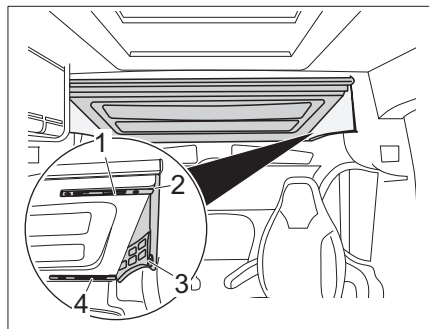

Fig. 28 Multiroof folded upwards
- Lift the Multiroof using one hand. With the other hand, open the two front locks (Fig. 28,1) on the left and right.
- Carefully fold the MultiRoof upwards until the locking pins are at the level of the upper notches (Fig. 28,2).
- Lift the Multiroof using one hand. With the other hand, pull the two locking pins (Fig. 28,1) out of the notches.
- Carefully fold down the Multiroof until the two locking pins are level with the lower notches (Fig. 28,3).
- Hold the Multiroof with both hands while the second person releases all locks (Fig. 28,1 and 4) on the left and right.